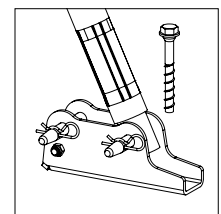

Fig. A5.02b
4. Fix Push-Pull Prop to the base plate with bolts and cotter pins. (Fig. A5.02b)